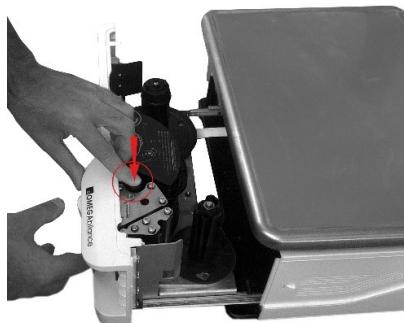

fig. 2
- Raise the print head by pressing the indicated key (fig. 2)